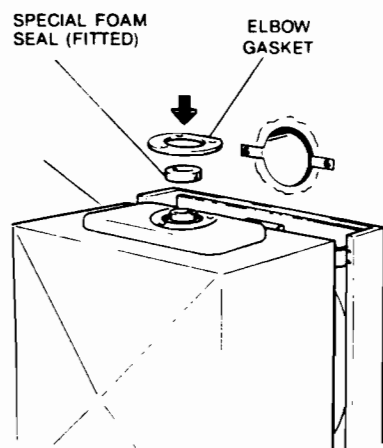

FIG. 22
- f) Ensure the special foam seal is correctly positioned over the flue spigot on the top of the boiler (position the elbow gasket to align with the three holes on the top of the boiler with the flat to the rear) (see Fig. 22).